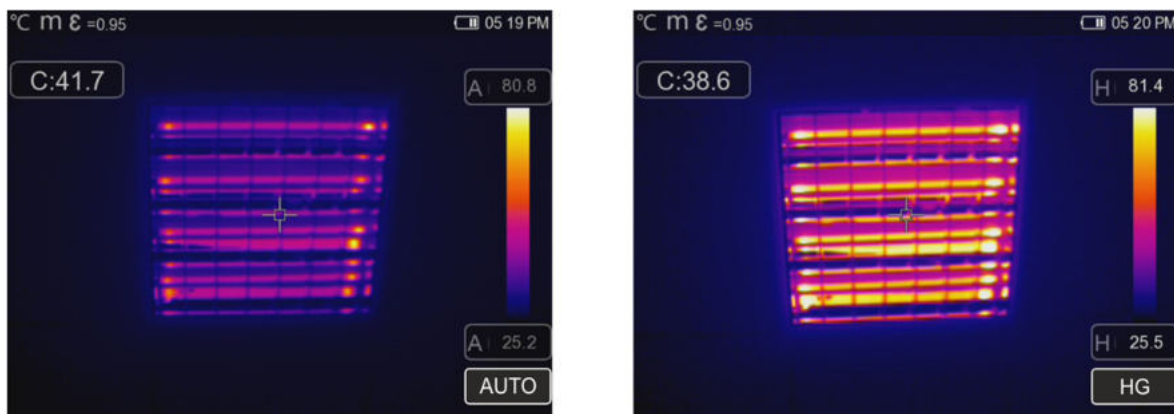

Fig. 45: Setting the Automatic and Histogram modes
- **Histogram (HG)** mode → the minimum and maximum temperature levels of the object framed on the display are always defined automatically by the instrument, as in the Auto mode, but in this case, the areas of the image in which temperature values are very different from the values of adjacent areas are highlighted. The relationship between temperature and colour of the palette is **non-linear** according to a histogram algorithm. This mode emphasizes image display in very dark working environments.
1. Press key or touch the icon “AUTO” found at the bottom on the right side of the display. The screens in Fig. 45 show the selection of modes “AUTO” and “HG”.